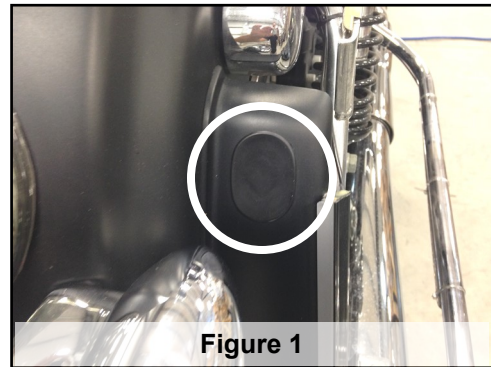

Figure 1
2. Remove the stock rubber plugs and/or grommets from the antenna port holes in the filler strip. (See Figures 1&2)